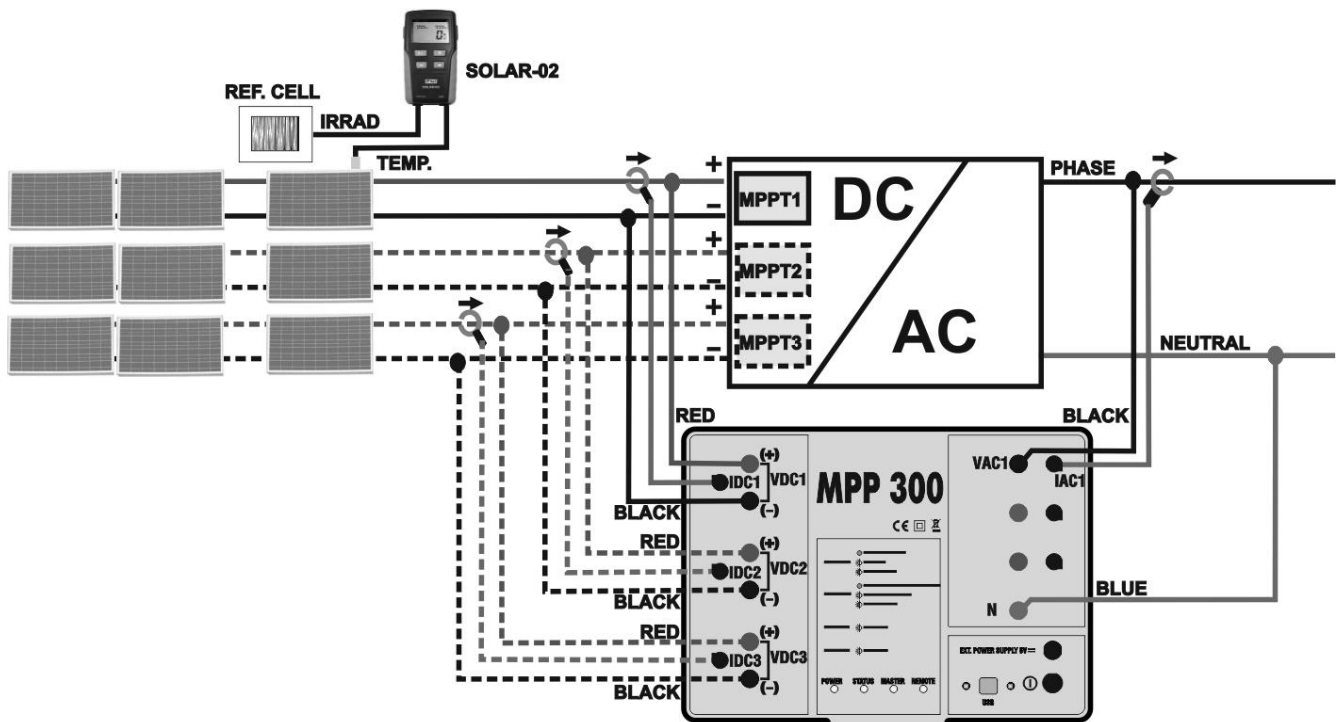
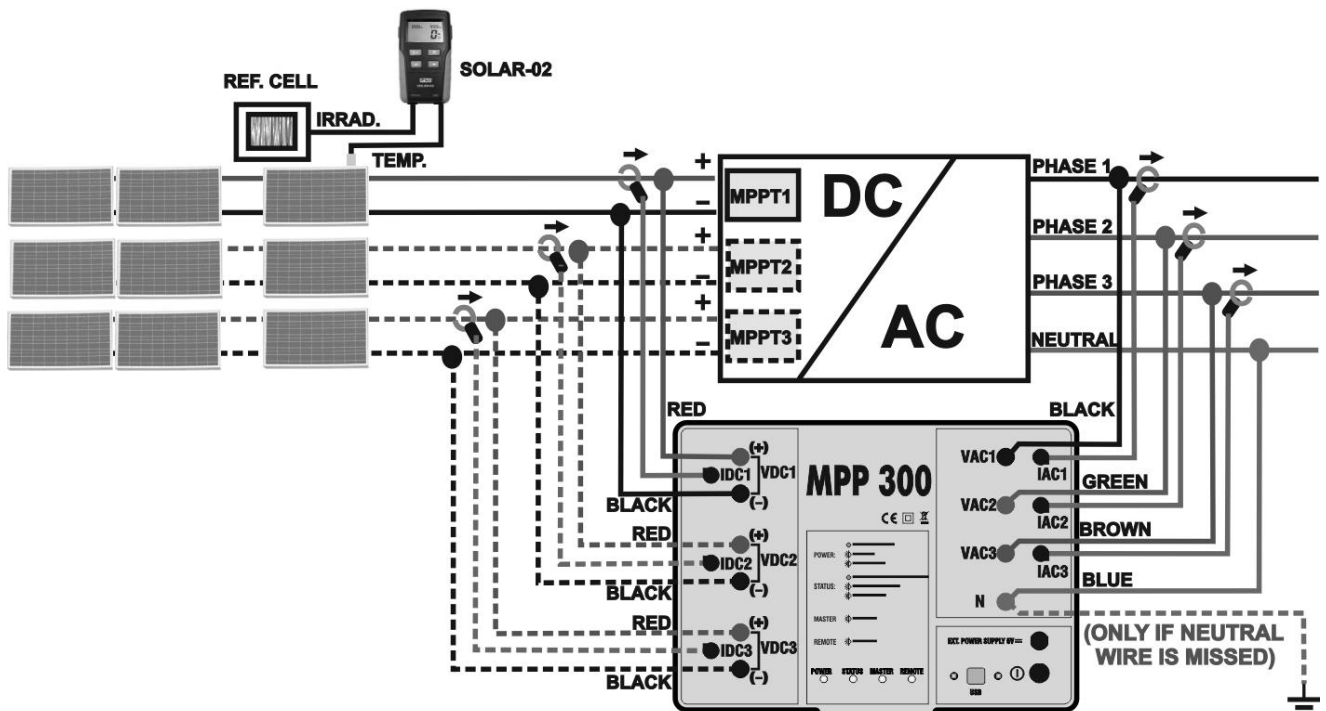

Fig. 5: Connection of MPP300 for testing a single-phase PV system
Fig. 6: Connection of MPP300 for testing a three-phase PV system
7. Connect the **VDC1(+)** and **VDC1(-)** inputs of unit **MPP300** to the output terminals of the string, respecting the polarities and the colours indicated in Fig. 5 or Fig. 6
10. Insert the DC current clamp onto the positive output conductor of the string, **respecting the direction of the arrow** found on the clamp itself as indicated in Fig. 5 or Fig. 6. Position the clamp toroid as far as possible from the inverter and from the negative output conductor of the string itself.
12. Connect the **VAC1** and **N** inputs of unit **MPP300** to the Phase and Neutral conductors respectively, respecting the polarities and the colors indicated in Fig. 5 or Fig. 6. In case of three-phase systems in which no Neutral conductor is available, connect input **N** to earth.
14. Connect the AC clamp to the Phase L1 conductor, **respecting the direction of the arrow** found on the clamp itself as indicated in Fig. 5 or Fig. 6. Position the clamp toroid as far as possible from the inverter and from the Neutral conductor. Connect the clamp output to the **IAC1** input of MPP300.